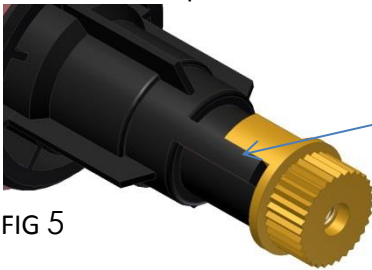

FIG 5
1. Turn the handle to the max temperature setting by turning the handle anti-clockwise (fig 5). Measure the temperature with a thermometer.